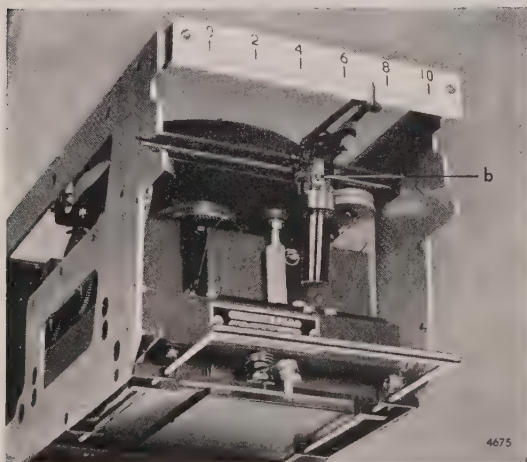

Fig. 31. Front view of the frame, cassette removed
4. Pull the frame so far out of the case that the knob of the measuring potentiometer (14) is easily accessible.
6. Loosen the small screw *b* (Fig. 31).